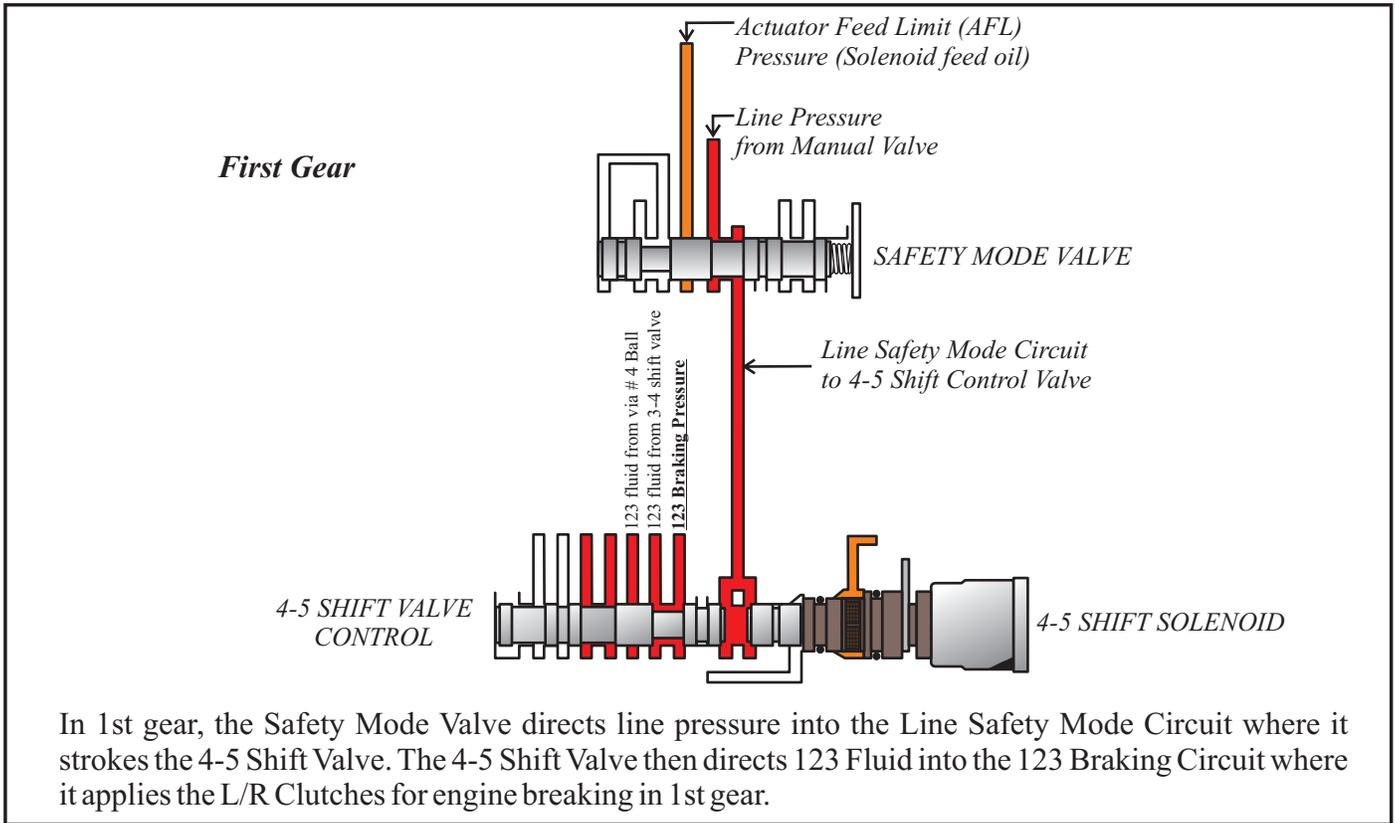

Figure 6
**CAUSE:** One cause may be that the Safety Mode Valve in the valve body is stuck in an un-stroked position. In first gear, this Safety Mode Valve is held closed by spring tension. This allows line pressure to pass through the valve into the Line Safety Mode circuit which then strokes the 4-5 Shift Valve. The 4-5 Shift Valve then directs 123 oil into the 123 Braking circuit applying the L/R Clutch with regulated line pressure for engine braking in first gear. (Figure 6)